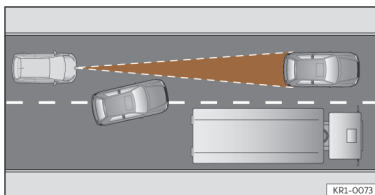

Fig. 145 Vehicle changing lanes.
- Vehicles that move into your lane, a short distance from your vehicle >>> **Fig. 145.**